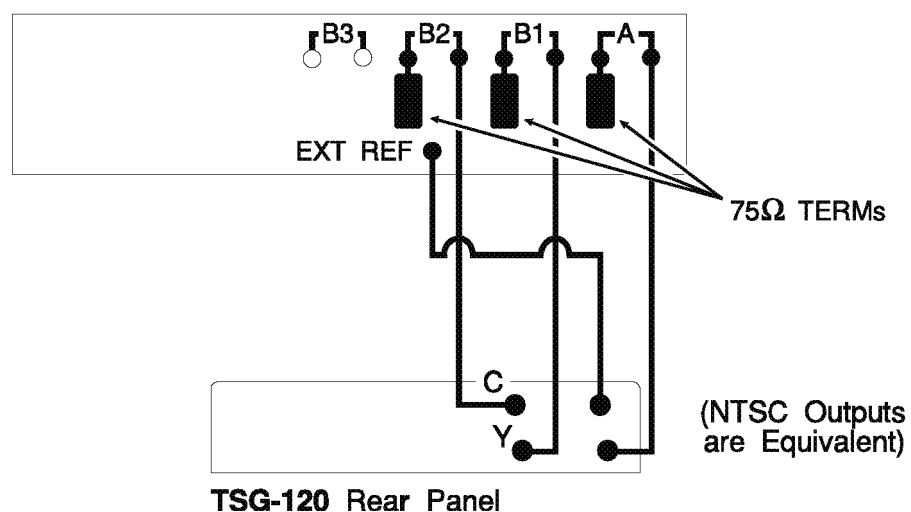

Figure 4-4: NTSC sync amplitude test setup (video measurement set)
- a. Connect the equipment as shown in Figure 4-4 or 4-5.